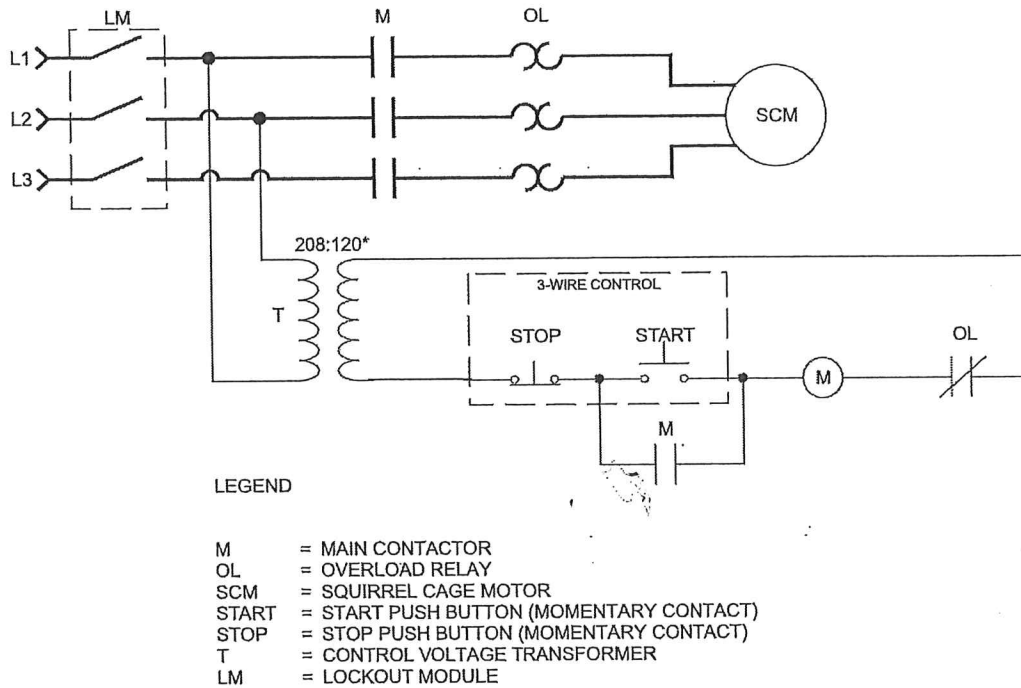

Figure 3 – Three Wire Control
A Three Wire control (figure 3) is also known as LOW VOLTAGE PROTECTION. The circuit will de-energize on low voltage (no voltage) and must be MANUALLY reset when power is restored. The equipment will NOT automatically restart.
- ___ 1. Wire the circuit as shown in Figure 3 – Three Wire Control.